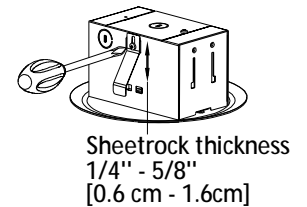

Fig. 6
5. Adjust the springs to the appropriate position based on the thickness of the sheetrock using a screwdriver (refer to Fig. 6).